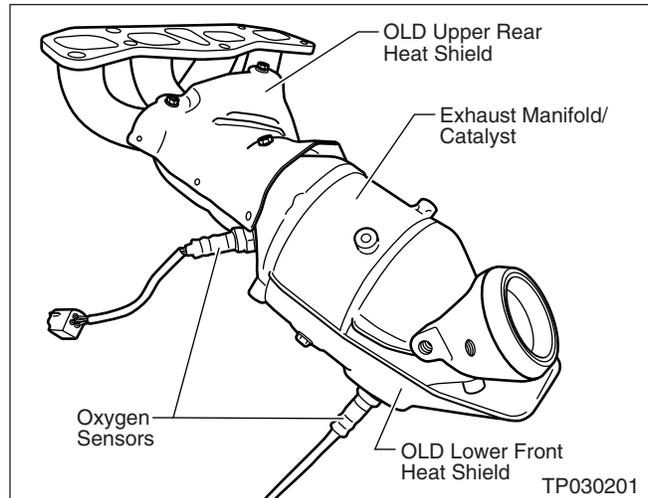

Figure E24
34. Remove three screws and remove the old Lower Front Heat Shield from the old manifold (see Figure E24).
35. Remove the old Oxygen Sensors from the old manifold (see Figure E24).